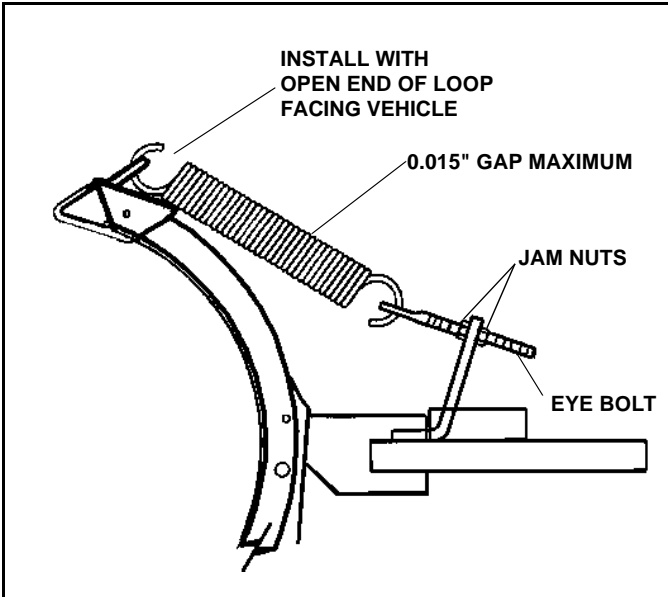

Figure 1-11
5. Attach trip springs found in blade parts box to both trip spring mounting brackets on top of blade assembly. Insure that Spring is installed as illustrated with open end of top loop facing vehicle. (See Figure 1-11) Insert other end of spring into Eyebolts. Install nuts on Eyebolts and tighten until trip spring coils begin to separate. (See Figure 1-11)